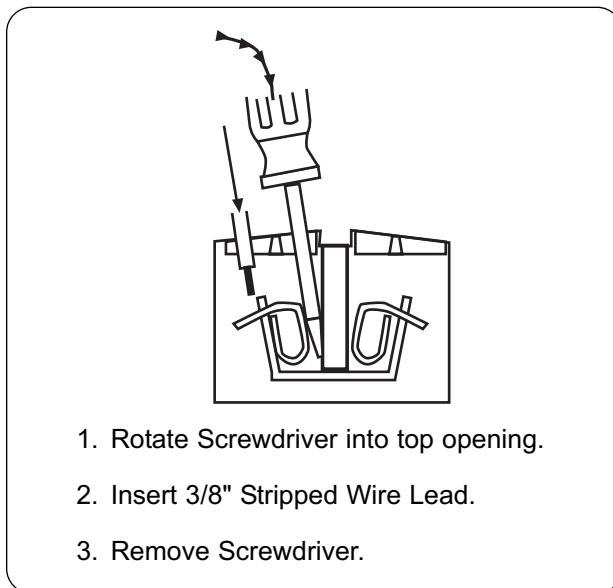

Figure 7. Terminal Block Wiring Instructions.
3. Bring power leads from a properly sized fused disconnect switch or circuit breaker through 7/8" hole provided on lower left hand side or bottom of base. Connect supply lines to terminal block provided. (See Figure 7.) **Use copper wire only.**
4. A green grounding terminal is provided internally. An equipment grounding conductor must be properly connected to the green terminal block. (See Figure 7.)